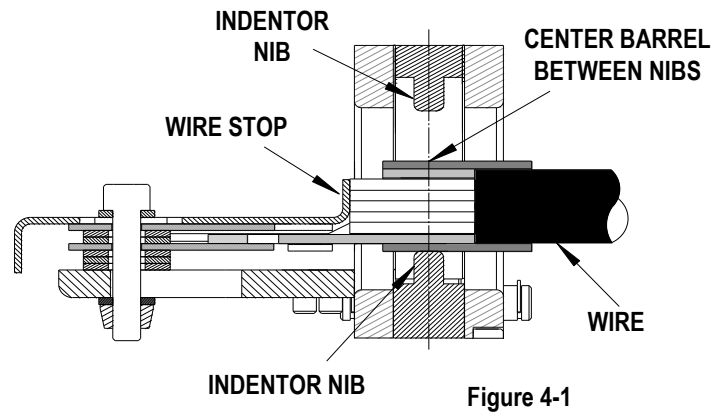

Figure 4-1
1. Adjust wire stop to position terminal barrel centered on the Indentor nibs. See figure 4-1.